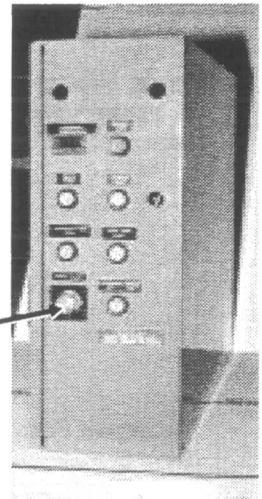

Figure 5-2
3. Start the conveyor and adjust its speed to suit your operating conditions, generally at 10 to 12 feet per minute, or at about one-third speed is a good starting speed. (Figure 5-2)